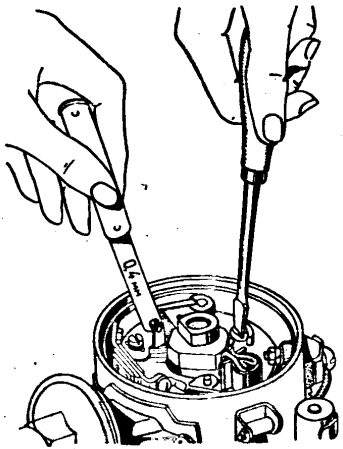
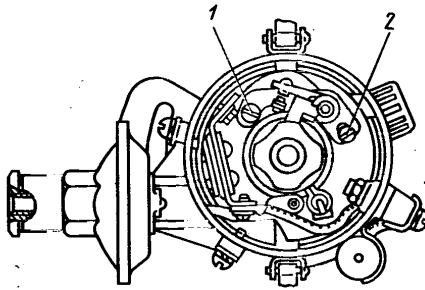

Fig. 23. Adjusting Breaker Point Gap
Fig. 24. Distributor:
1. Keep the distributor clean and dry. Wipe the breaker contact points with chamois leather. If the points are worn or burned, level them up. Check the breaker point gap which should be 0.35 - 0.45 mm with the points fully open (Fig. 23). To perform the adjustment, loosen lockscrew 1 (Fig. 24) and turn adjusting screw 2.